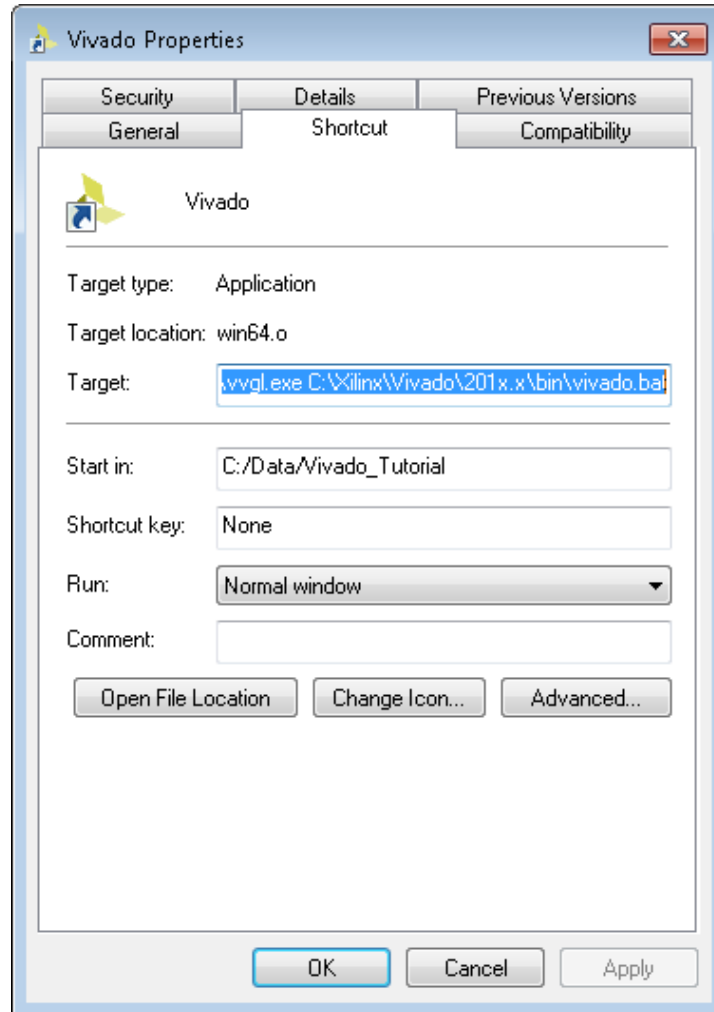

Figure 9: Configuring the Start in Directory
3. Under the **Shortcut** tab, set the **Start in** value to the extracted Vivado Tutorial directory, as shown in Figure 9: